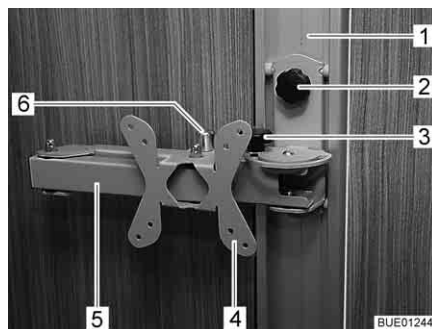

Fig. 69 Rail-mounted holder
- Undo the tommy screw (Fig. 69,2) and adjust the holder (Fig. 69,4) in the rail (Fig. 69,1) until it is at the desired height.
- Undo the tommy screw (Fig. 69,3).
- Pull the release knob (Fig. 69,6). The jointed arm (Fig. 69,5) is unlocked.
- Re-tighten the tommy screw (Fig. 69,3).
- Swing the flat screen back into its original position until you hear the jointed arm (Fig. 69,5) lock into position.
- Undo the tommy screw (Fig. 69,2), adjust the holder (Fig. 69,4) to the desired height and re-tighten the tommy screw.